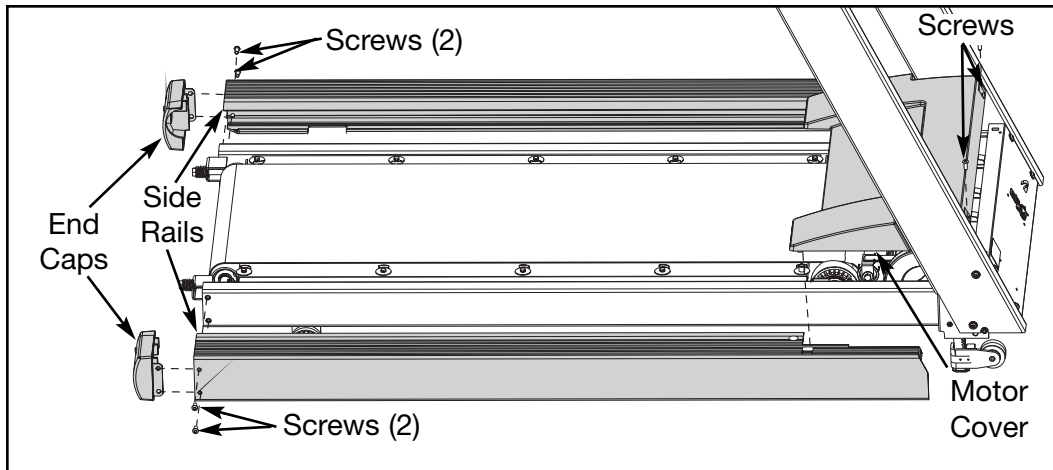

Figure 2
- A.** Turn the main power switch on the front panel to the off (O) position.
- A.** Remove the two Phillips head screws that fasten the motor cover to the frame. Lift the cover and set it aside. This will allow you to remove the side rails. See Figure 2.
- B.** Using a 3/16" Allen wrench, remove the two button head screws on the sides of each side rail. See Figure 2.
- B.** Using a 3/16" Allen wrench, attach the two button head screws on the sides of each side rail. See Figure 2.
- C.** Lower the motor cover in place and tighten the two Phillips screws. See Figure 2.